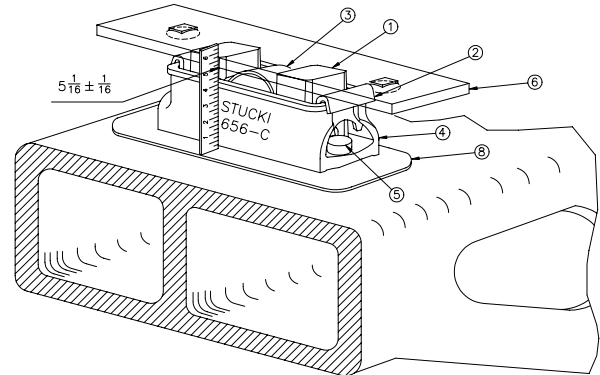

Figure 3. Measurement of Set-Up Height
Vertical space between the car body side bearing wear plate ⑥ (or wedge) and the truck bolster surface to which the side bearing cage is mounted must be  $5\text{-}1/16" \pm 1/16"$ , measured as illustrated in Figure 3. Space must be measured with car positioned on reasonably level track before installing resilient blocks or applying solid centerplate lubrication.
The 656-C side bearing cage (see Figure 3) must be free of flaws or cracks and must be securely fastened to the truck bolster. Please refer to A. Stucki Company's roller side bearing installation instructions for cage fastener recommendations.